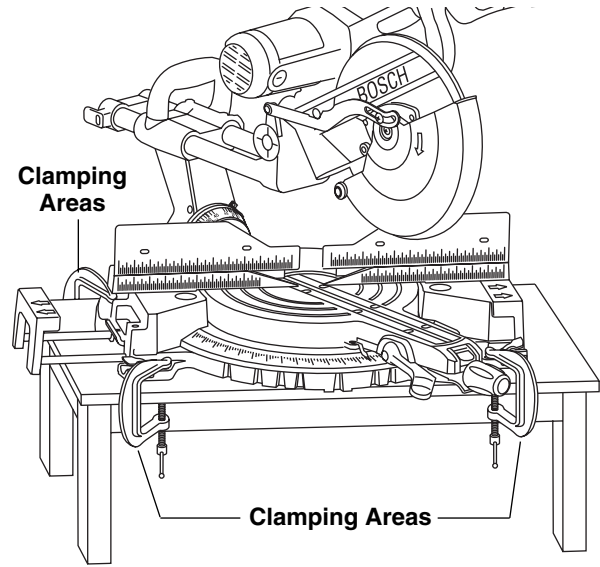

Figure 15. Portable Mounting Using Clamps
- Place two (2) or more “C” clamps on the clamping areas and secure (Figure 15).
- Be careful not to place clamps over the base extension clamping levers (Figure 15).